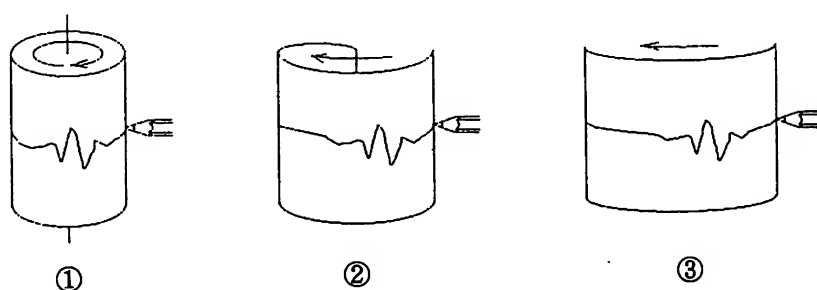

Figure 4-30. Roll Operation
This is analogous to a case that a signal waveform is recorded on a strip-chart pen recorder as shown in Figure 4-30. Assuming a recorder as shown in ①, the waveform for the second and further turns of chart drum will be overwritten on the waveform of the first turn. With the Roll Mode of the oscilloscope, it is analogous to that the waveform of the preceding cycle is erased continuously at the point where the fresh data is written. That is, as the newest data arrives at the right hand end of the displayed waveform pattern, the oldest data departs from the left hand end.